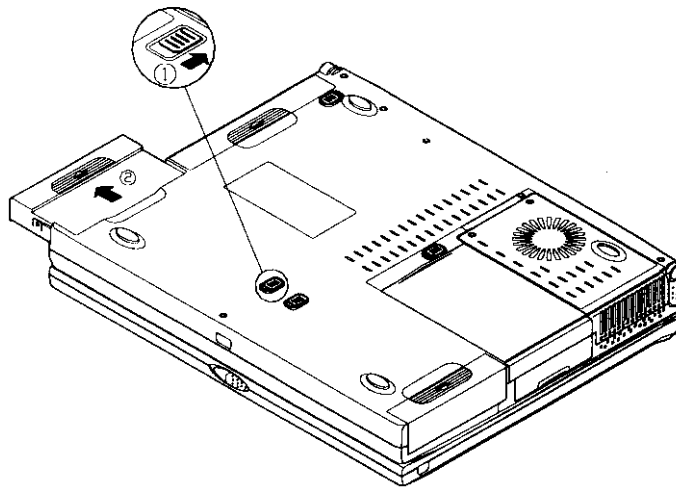

Figure 2-15
3. Locate the Floppy Disk Drive latch (Figure 2-15).